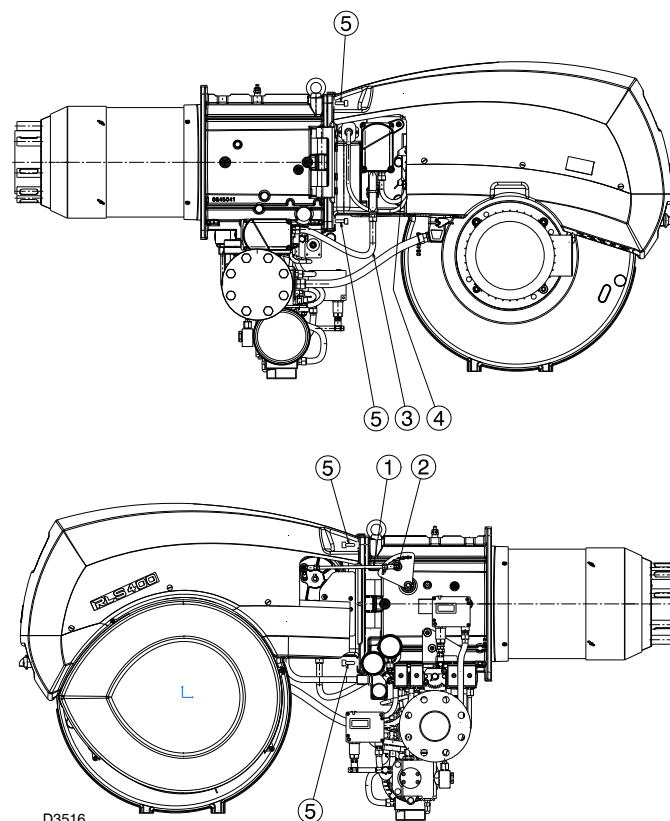

Fig. 41
- Remove the tie rod 1) (Fig. 41) of the head movement lever, loosening nut 2).